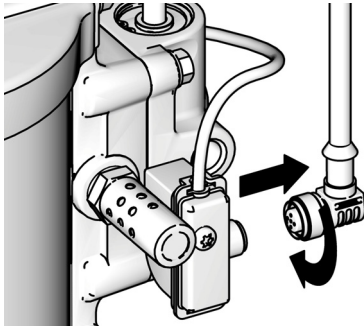

FIG. 39. Disconnect DataTrak
1. Unscrew the cable from the back of the reed switch assembly as shown in **Figure 39**.